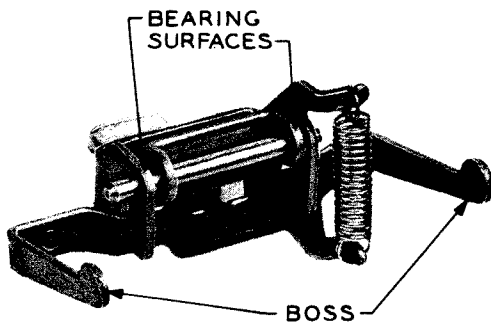

Fig. 3 — Operating Bracket Switch Assembly
4.02 To eliminate binding or squeaking, clean the bosses on operating bracket arms, spring anchor points, operating bracket, and shaft bearing points with a KS-2423 cloth moistened with KS-7860 petroleum spirits. Lubricate the bearing surfaces with a No. 2 or softer graphite pencil. (See Fig. 3.)